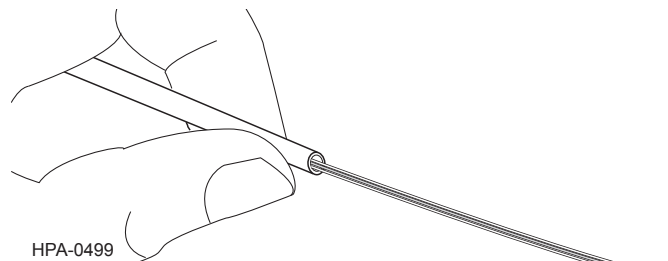

Figure 11
**Step 4:** Slide the scored section of tube off of the fibers (Figure 11).